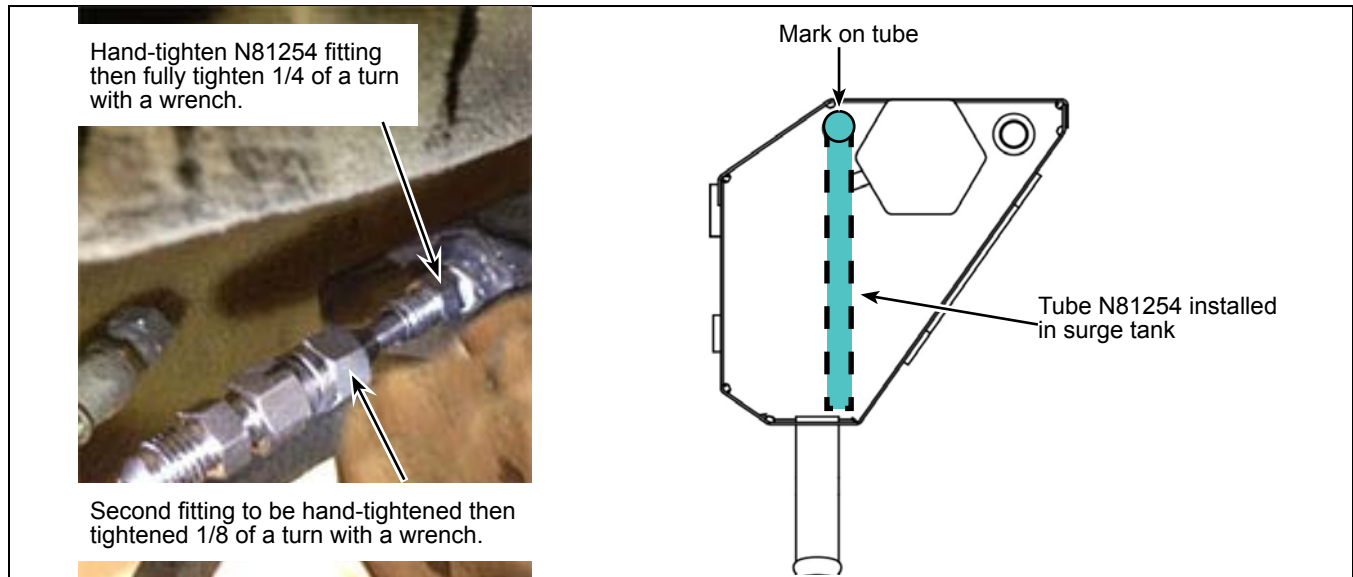

Figure 6 - Rigid Supply Tube N81254 Installation on Surge Tank
- 1.14. Install rigid supply tube N81254 in the surge tank, making sure to position the mark on top. Hand-tighten the fitting and make another 1/4 of a turn with a wrench to fully tighten the fitting. See Figure 6.
- 1.15. Hand-tighten the second fitting on to the fitting on the surge tank and make another 1/8 of a turn with a wrench to fully tighten the fitting. The mark should remain on top while tightening the fitting. See Figure 6.